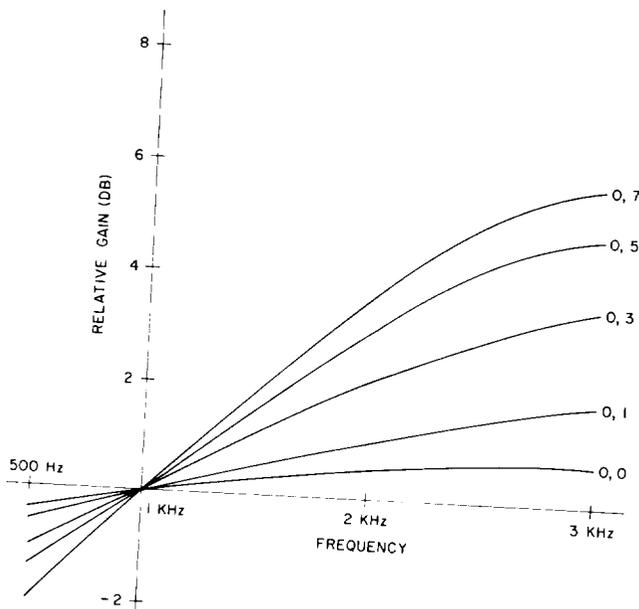
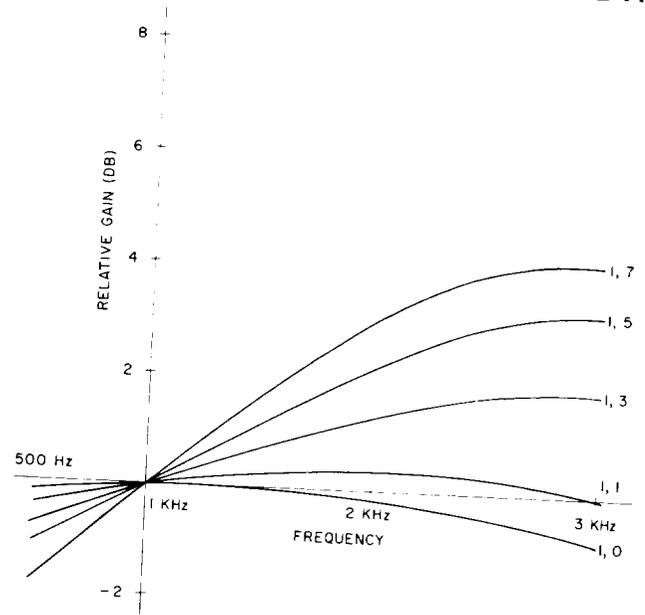

Fig. 10—Amplifier/Equalizer Response A=0
Fig. 11—Amplifier/Equalizer Response A=1
**4.03** Figures 10 and 11 give the frequency response of the gain and equalizer unit for the J99343PB, L3. Figure 10 gives the response curves for various equalizer settings with the A switch set to 0. Figure 11 provides curves for the same equalizer settings with the A switch operated.